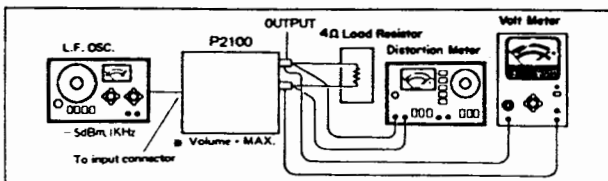

Fig. 2
- Connect the equipment as shown in Fig. 2.
- Connections are the same as those in Fig. 2, but in addition, connect a distortion meter to the output terminals.
- The connections are the same as those in Fig. 2 but the waveform can be observed when a syncroscope is connected.
- The connections are the same as those shown in Fig. 2. In addition, connect a distortion meter to the output terminals.
- The connections are the same as those in Fig. 2.